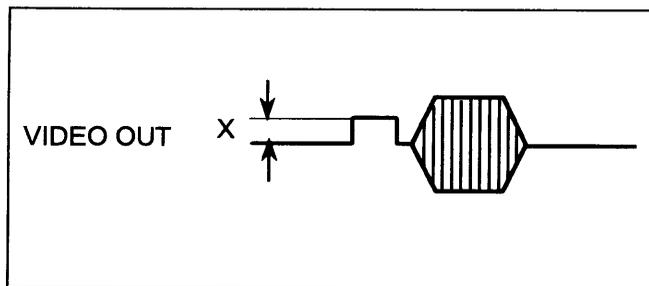

Figure 9
4. Adjust VR3 so that the DC level of blanking area of VIDEO 2 OUTPUT becomes flat as shown in Figure 9.